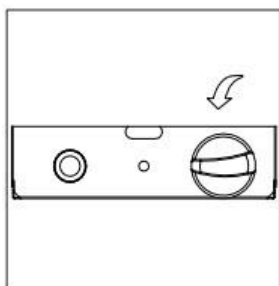

Figure 3
- Push in control knob and turn counterclockwise to “PILOT” (Figure 3).